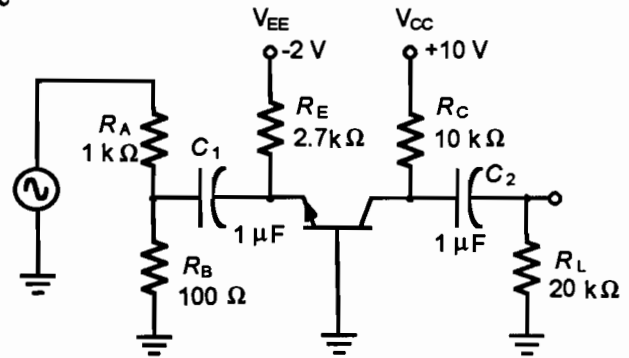

Figure 20.1
1. Build the circuit of Figure 20.1. Resistors  $R_A$  and  $R_B$  are a voltage divider to lower the input signal to your amplifier without excessively loading the signal generator.
Build the amplifier circuit of Figure 20.1. Replace the 2.7-kΩ emitter resistor (RE) with a 2.2-MΩ resistor. Estimate the effect this failure would have on the circuit. Record your estimated voltages in the *Estimated* column of the table provided here. Apply circuit power. Connect and set the signal generator to supply 20 mVp across RB. Measure and record the listed voltage values in the *Measured* column.